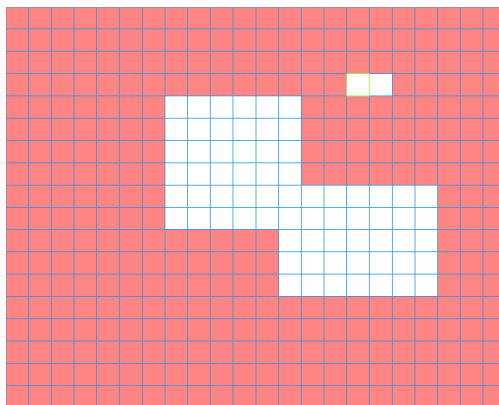

Figure 3-72
- Region: Click select button, the interface is shown as in Figure 3-72. Here you can set motion detection zone. There are 396(PAL)/330(NTSC) small zones. The green zone is current cursor position. Grey zone is the motion detection zone. Black zone is the disarmed zone. You can click Fn button to switch between the arm mode and disarm mode. In arm
In Figure 3-72, you can left click mouse and then drag it to set a region for motion detection.